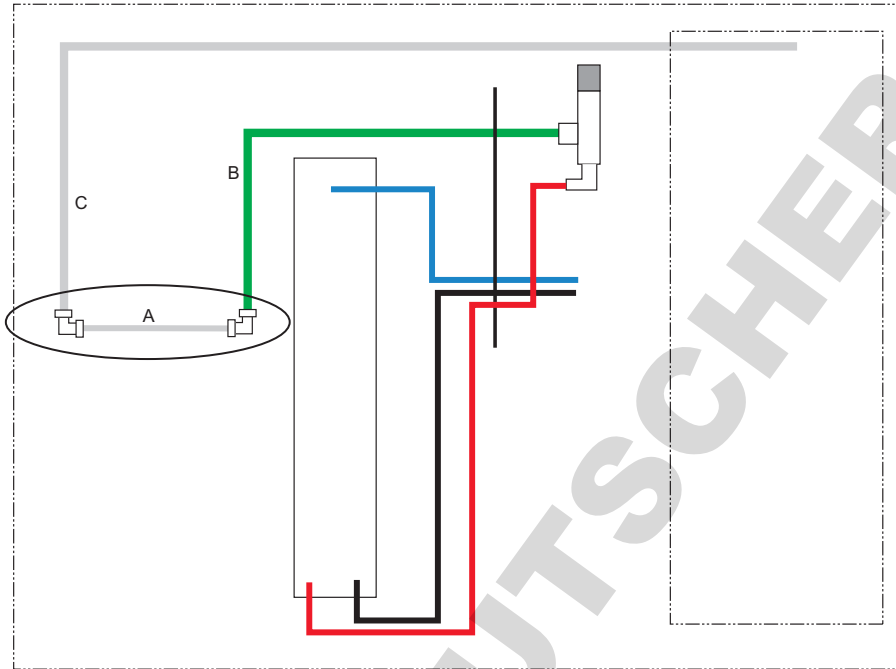

Figure 6. Bypass tubing connected.
2. Connect one end of the bypass tubing (A) to the open end of the **green** RO water outlet tube (B) and the open end of the **white** reservoir inlet tube (C) as shown in Figure 6. Use the provided elbow fittings.
Required	Be sure the bypass tube is connected. See Figure 6.